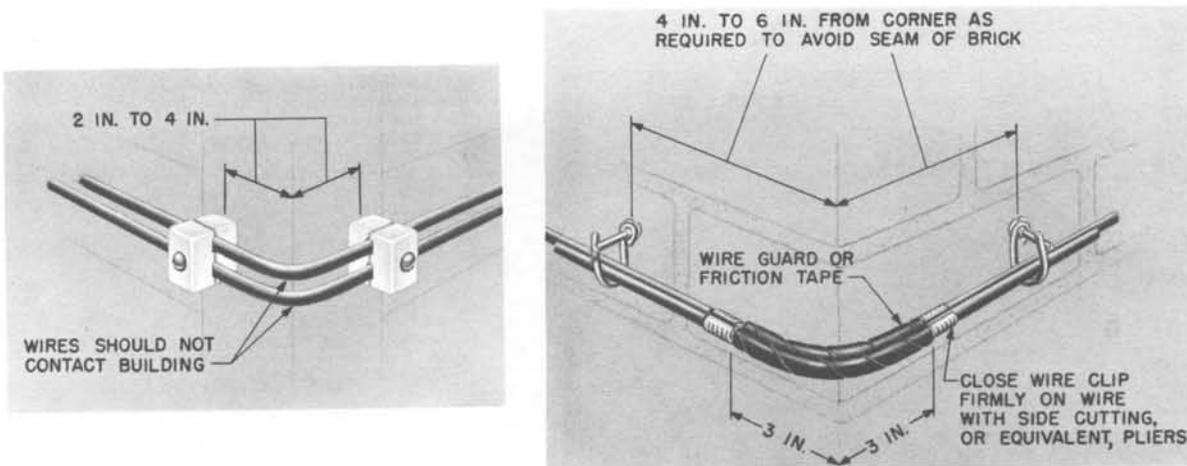

Fig. 10 – Intermediate Building Attachments at Outside Corners
3.00 INTERMEDIATE ATTACHMENTS ON BUILDINGS (Fig. 10 through 14)